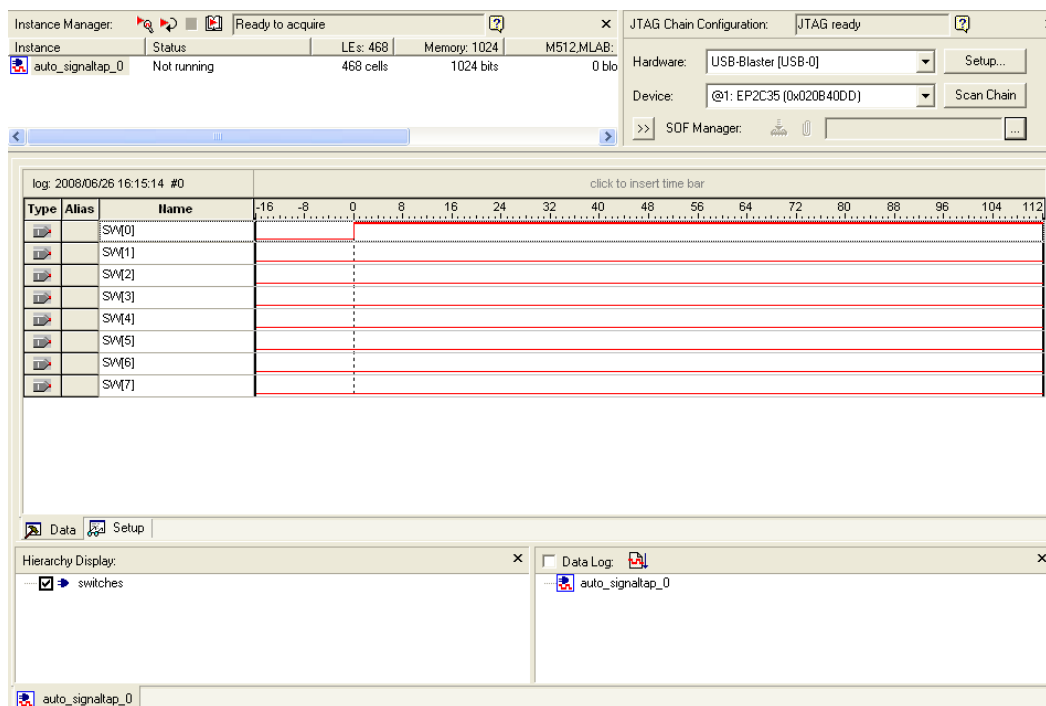

Figure 12. Graphical display of values after trigger condition is met.
- Now, to observe the trigger feature of the Logic Analyzer, set Switch 0 on the DE2 board to high. The data window of the SignalTap II window should display the image in Figure 12. Note that this window shows